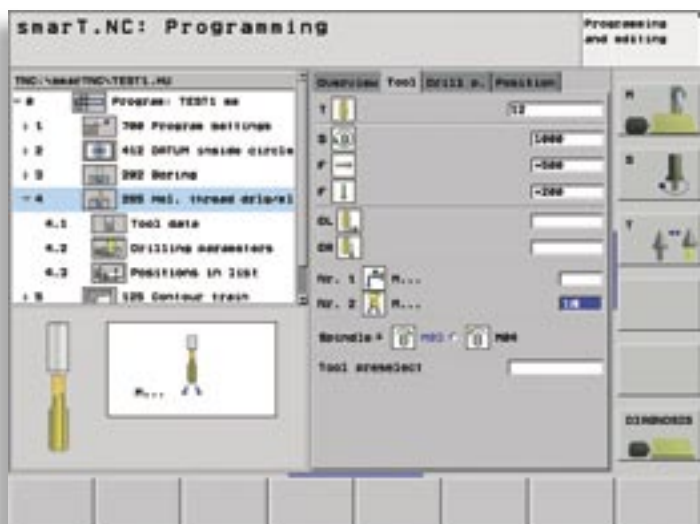

Figure 13: Use of graphic symbols
- Graphic, easily understood symbols in the forms so that types of input information are quickly recognized for different operations (Figure 13)